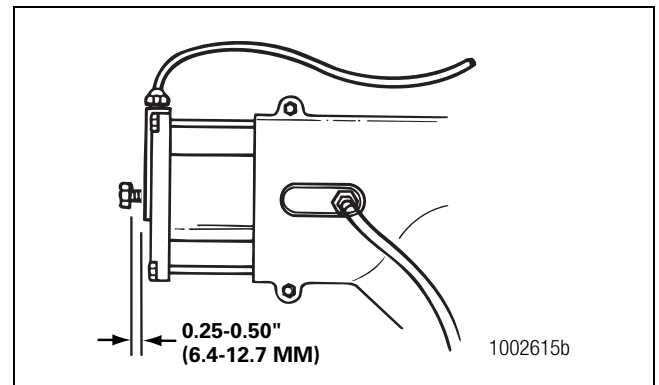

**Figure 11.7**
- C. Install the manual engaging capscrew into the threaded hole in the center of the cylinder. Figure 11.7.